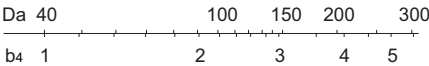

Fig.1 Dimension Factor
- C : Basic dynamic load rating (N)
- P : Equivalent radial load (N)
- b₄ : Dimension factor (see Fig.1)